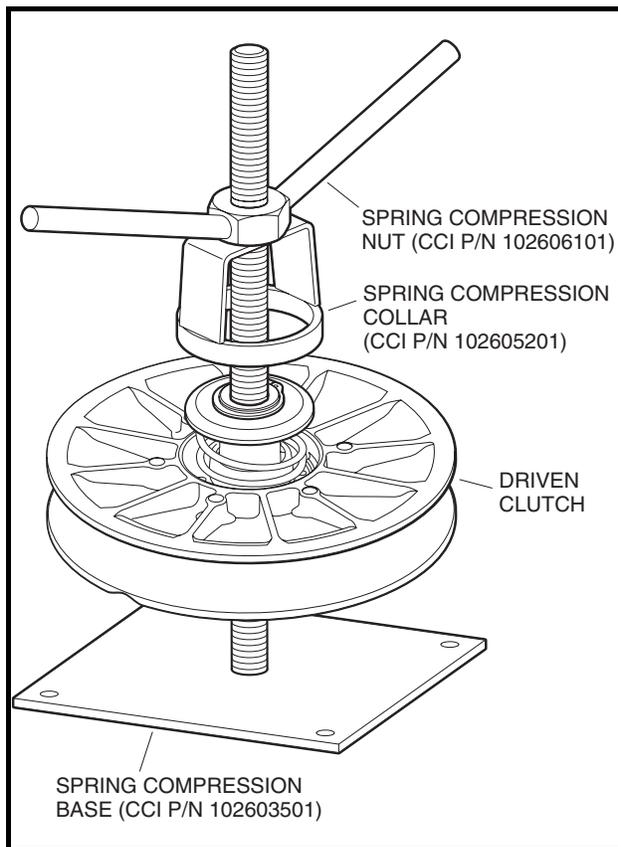

Figure 13a-35 Driven Clutch Service Tools
1. Place the driven clutch onto the Spring compression base (CCI P/N 102603501) (**Figure 13a-35, Page 13a-37**).